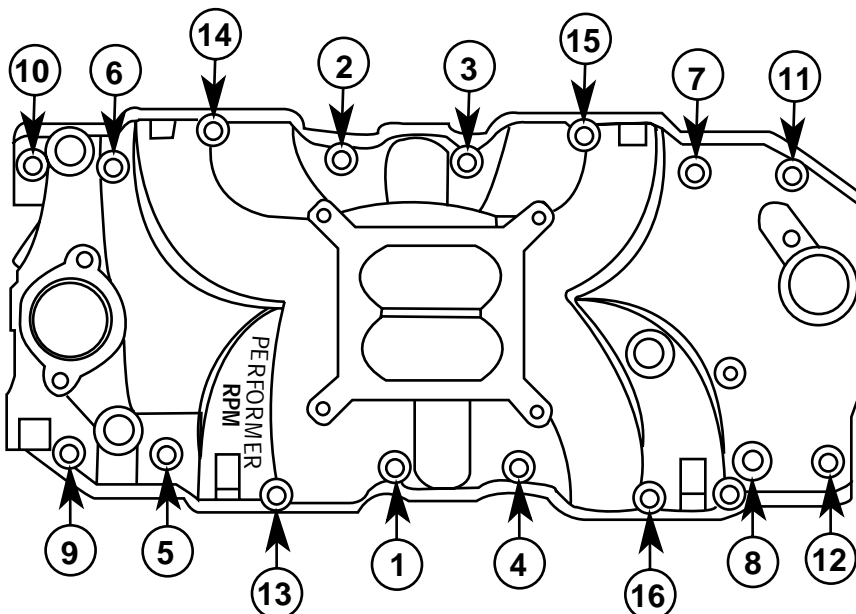

Figure 2
**WARNING:** There is no gasket support for the manifold on the four bolt holes which are numbered 13, 14, 15, and 16 in Figure 2. Damage to the manifold will occur if these four bolts are over-tightened. Hand tighten them with a 6" box end wrench. Do not use a torque wrench. Torque all other manifold bolts circled in Figure 2 to 25 ft/lbs. See Figure 2 for proper sequence.